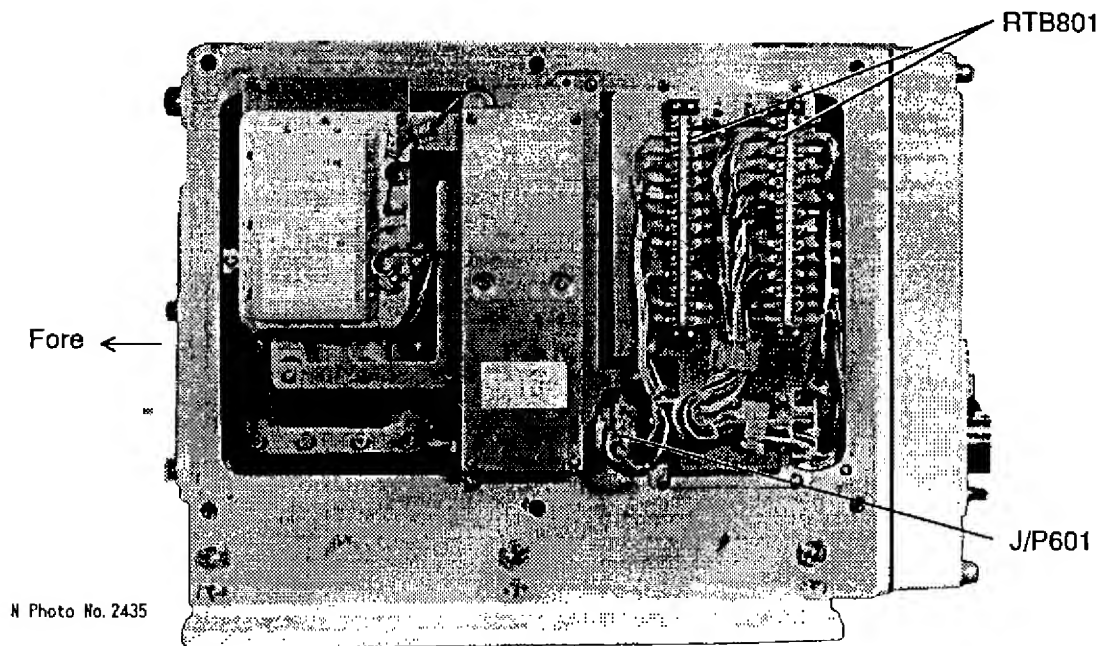

Fig. 2-9 Scanner Unit (Side View)
5. Determine the length of each core considering its location on RTB801 (see the interconnection diagram and Fig. 2-9 on page 2-9). Trim conductors as necessary.